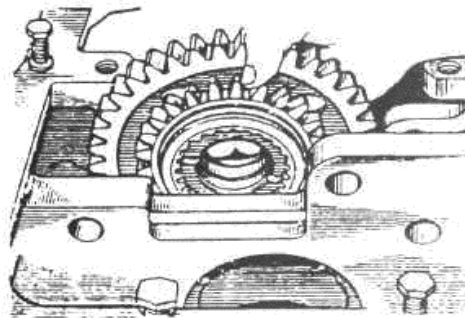

Figure 4.85
g) extract from GB body gears, bushings and tooth clutch (Figure 4.85);